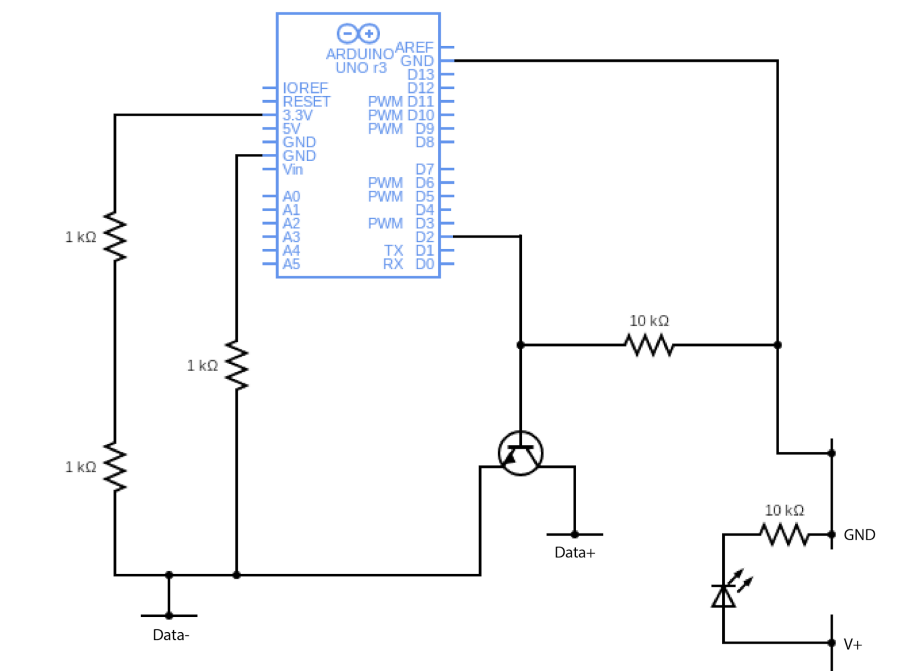

Figure 1- OC3 trigger board
1. Connect the Arduino UNO with RaspberryPi using the same pin as shown in Figure 1.